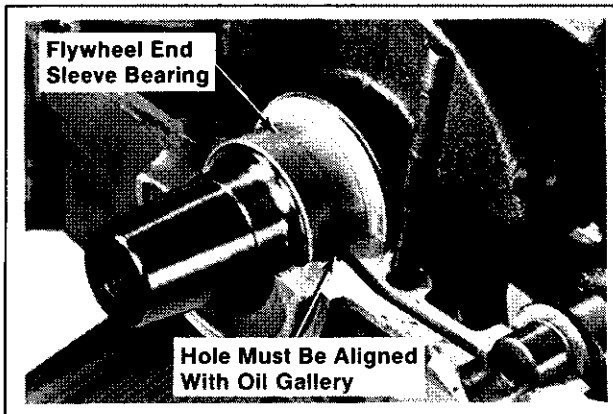

**Figure 11-11. Installing Thrust Washer and Bearings to Crankshaft.**
1. Lubricate the crankshaft bearing journals with engine oil. Install the .130" thrust washer to PTO end of crankshaft. Refer to Figure 11-11.